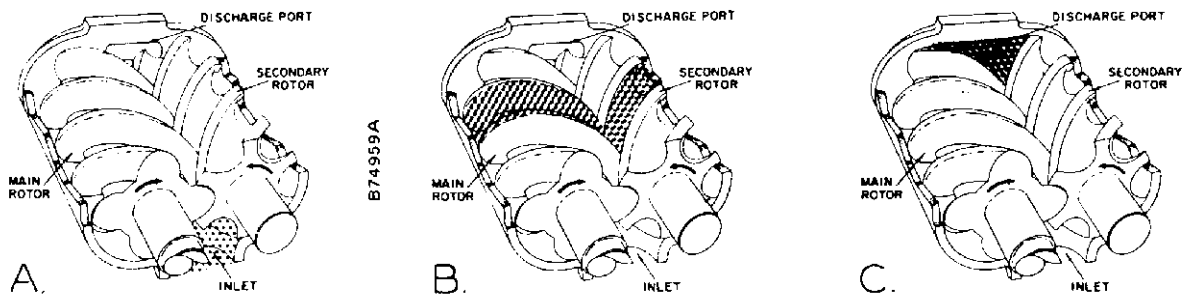

Figure 1-1 COMPRESSOR CYCLE
COMPRESSION PRINCIPLE (Figure 1-1) Compression is accomplished by the main and secondary rotors synchronously meshing in a one-piece cylinder. The main rotor has five (5) helical lobes 90° apart. The secondary rotor has six (6) matching helical grooves 72° apart to allow meshing with main rotor lobes.
The air inlet port is located on top of the compressor cylinder near the drive shaft end. The discharge port is near the bottom at the opposite end of the compressor cylinder. *Figure 1-1 is an inverted view to show inlet and discharge ports.* The compression cycle begins as the rotors unmesh at the inlet port and air is drawn into the cavity between the main rotor lobes and the secondary rotor grooves (A). When the rotors pass the inlet port cutoff, air is trapped in the interlobe cavity and flows axially with the meshing rotors (B). As meshing continues, more of the main rotor lobe enters the secondary rotor groove, normal volume is reduced and pressure increases.